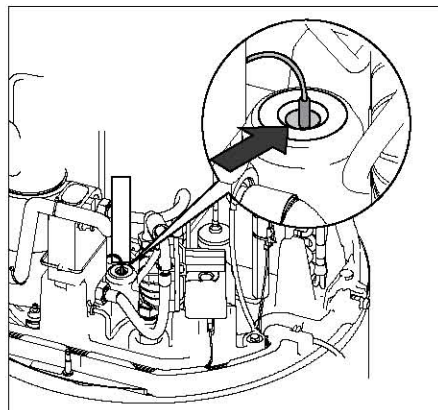

Fig. 2
- Assure correct positioning of all temperature sensors, see figure 2 and 3.